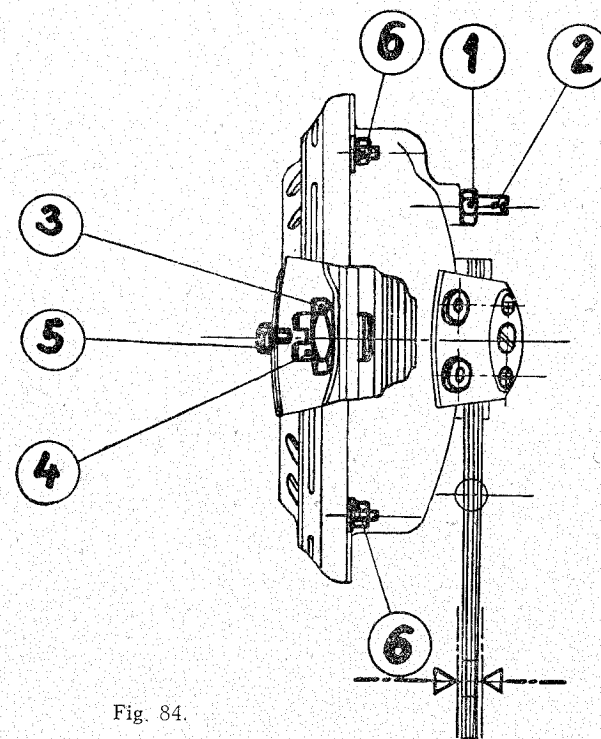

Fig. 84.
Prior to adjusting clamp the horn firmly into a vice with its bracket (at the points marked $\rightarrow$ and $\leftarrow$, see Fig. 84) and, using a spanner, tighten well all the nuts (6).